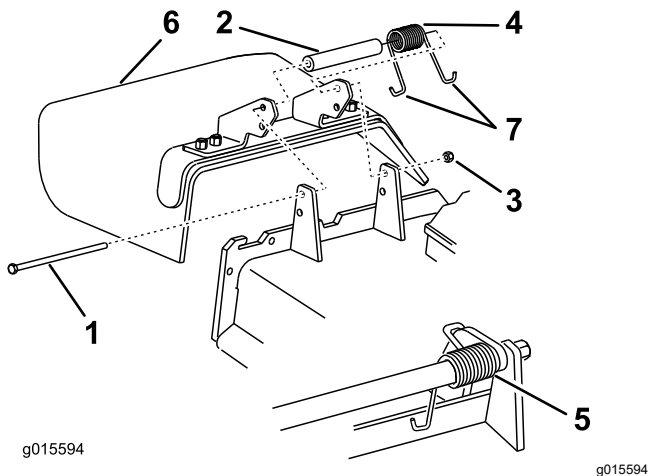

Figure 84
**Note:** Make sure that 1 J-hook end of spring is installed behind deck edge before installing the bolt as shown in Figure 84.